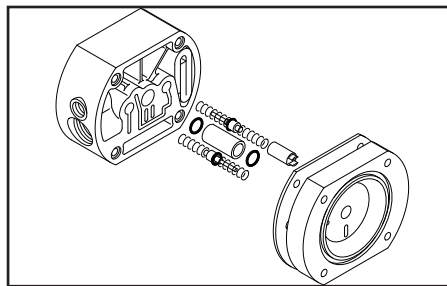

Figure 27-B
- Draw out the throat bearing (See Figure 27-A).
- Draw out the throat bearing (See Figure 27-B).
- Pilot valve assembly (See Figure 27-B)
- Pilot valve assembly (See Figure 27-A).